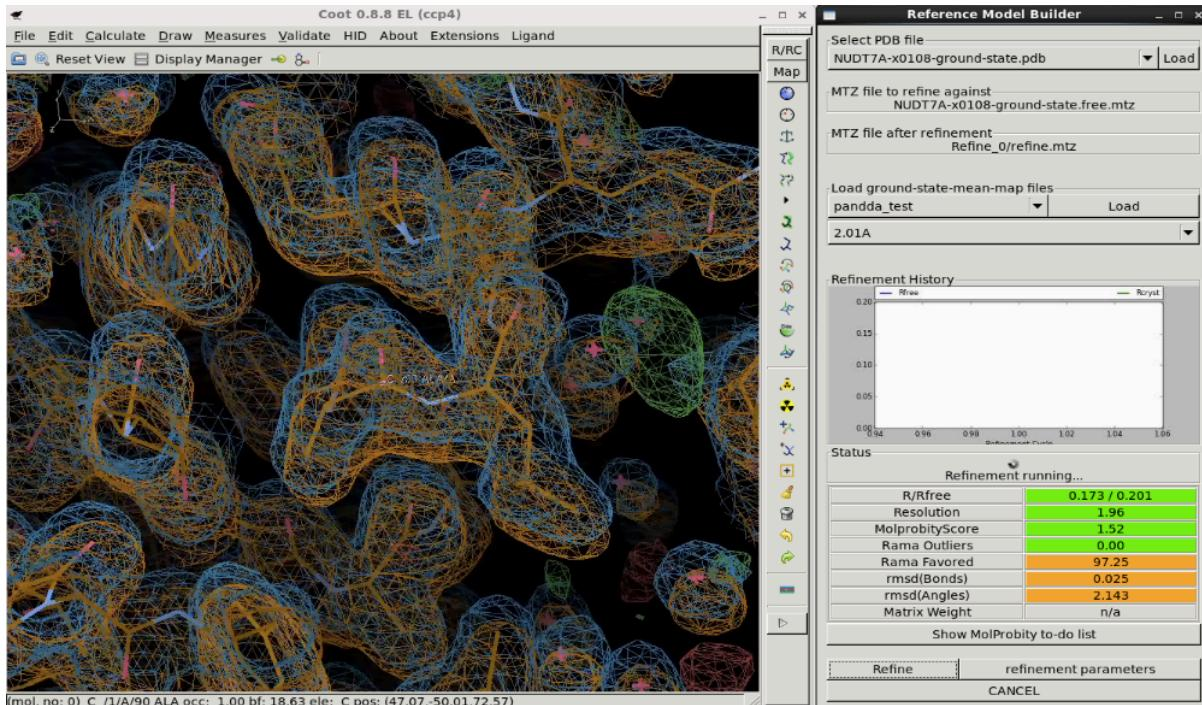

Figure 20. COOT interface during refinement. Note the little spinner in the middle of the panel which indicates that the refinement is still running.
- The modified model will be refined on the DLS cluster. A spinner will appear in the refinement panel and it will spin until the refinement is finished (see Figure 20). You cannot launch another refinement job while the current refinement is not finished.